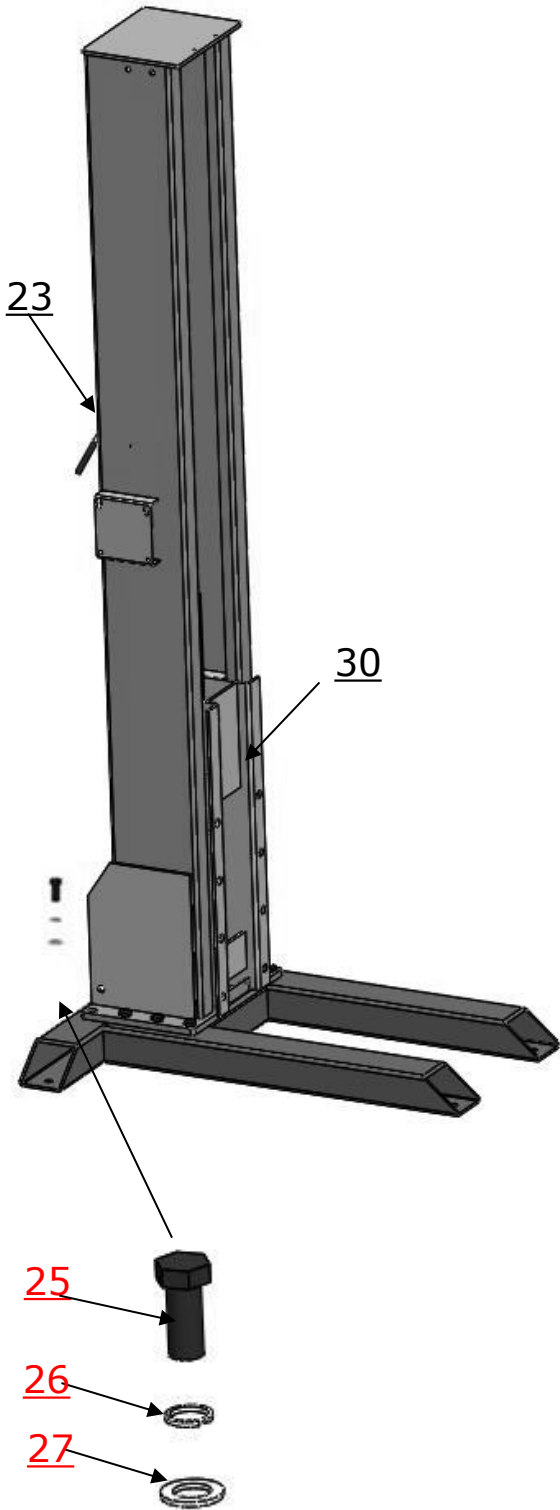

Fig. 12
3. Fix column to the base plate. (See Fig.12)